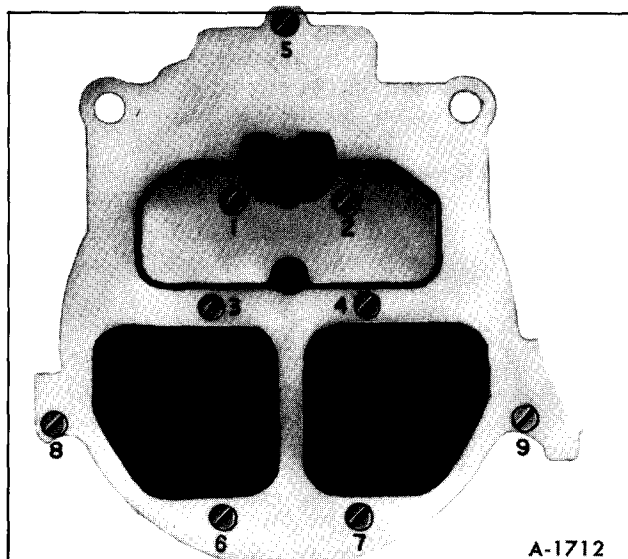

Figure 26—Air Horn Tightening Sequence
2. Install two long air horn screws, five short screws, and two countersunk screws into primary venturi area. All screws must be tightened evenly and securely. See Figure 26.